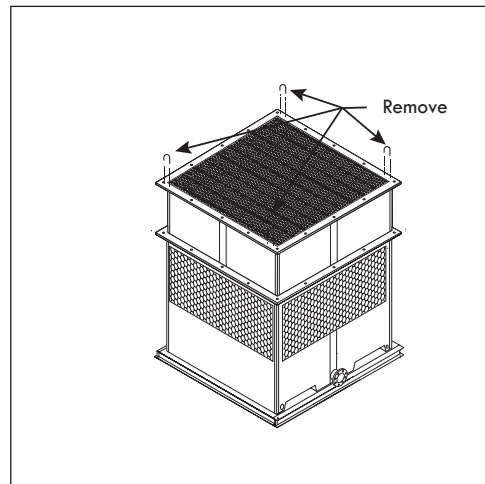

Figure A-9: Removing U-bolts from Lower Body section for a Single Fan Tower (RT-D)
- I.** After the Lower Body section has been set in place, remove the U-bolts located on the flange before installing the next section (see Figure A-9).